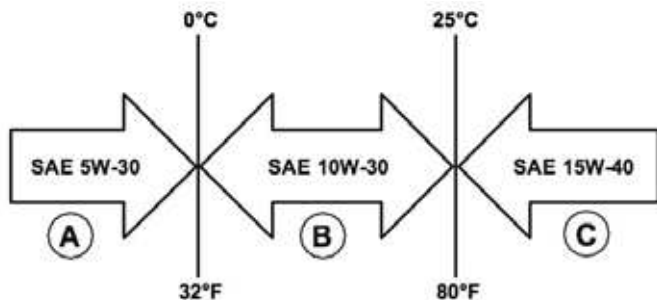

Figure 8: Recommended Oil
1. Only use the engine oil specified in Figure 8.
7. Select the proper engine oil as specified in Figure 8.